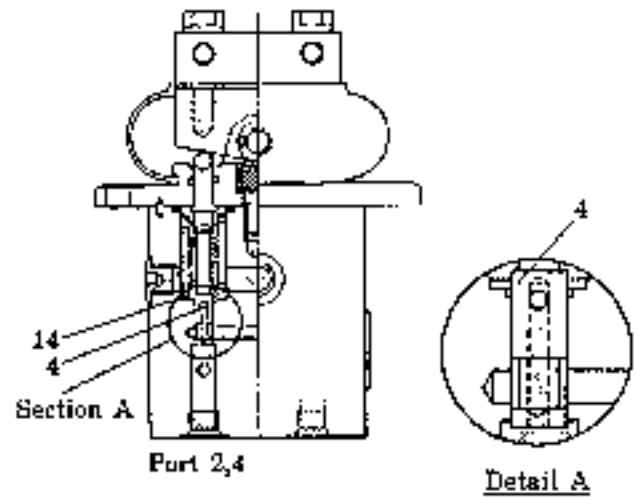

Fig. 3 Lever neutral
### (1) Lever neutral (See Fig. 3)